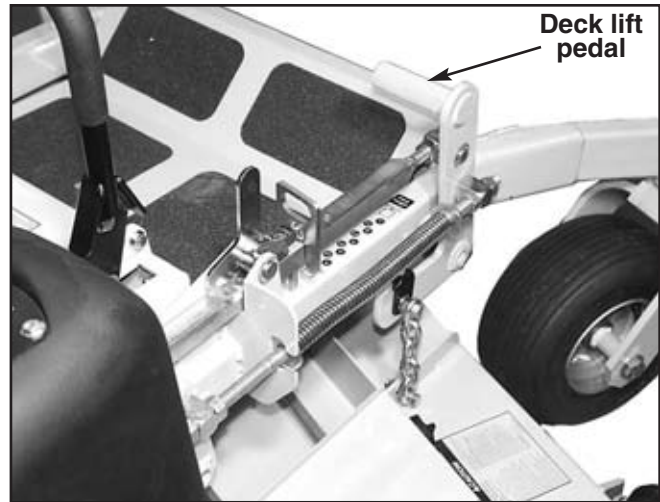

Figure 3-5
6. **Deck lift pedal (Fig. 3-5)** — the deck lift pedal is used to raise or lower the deck. Push on the pedal to raise the deck and then place the deck height locking pin into the desired cutting height hole. Push the deck lift pedal to raise the deck when going over obstructions.